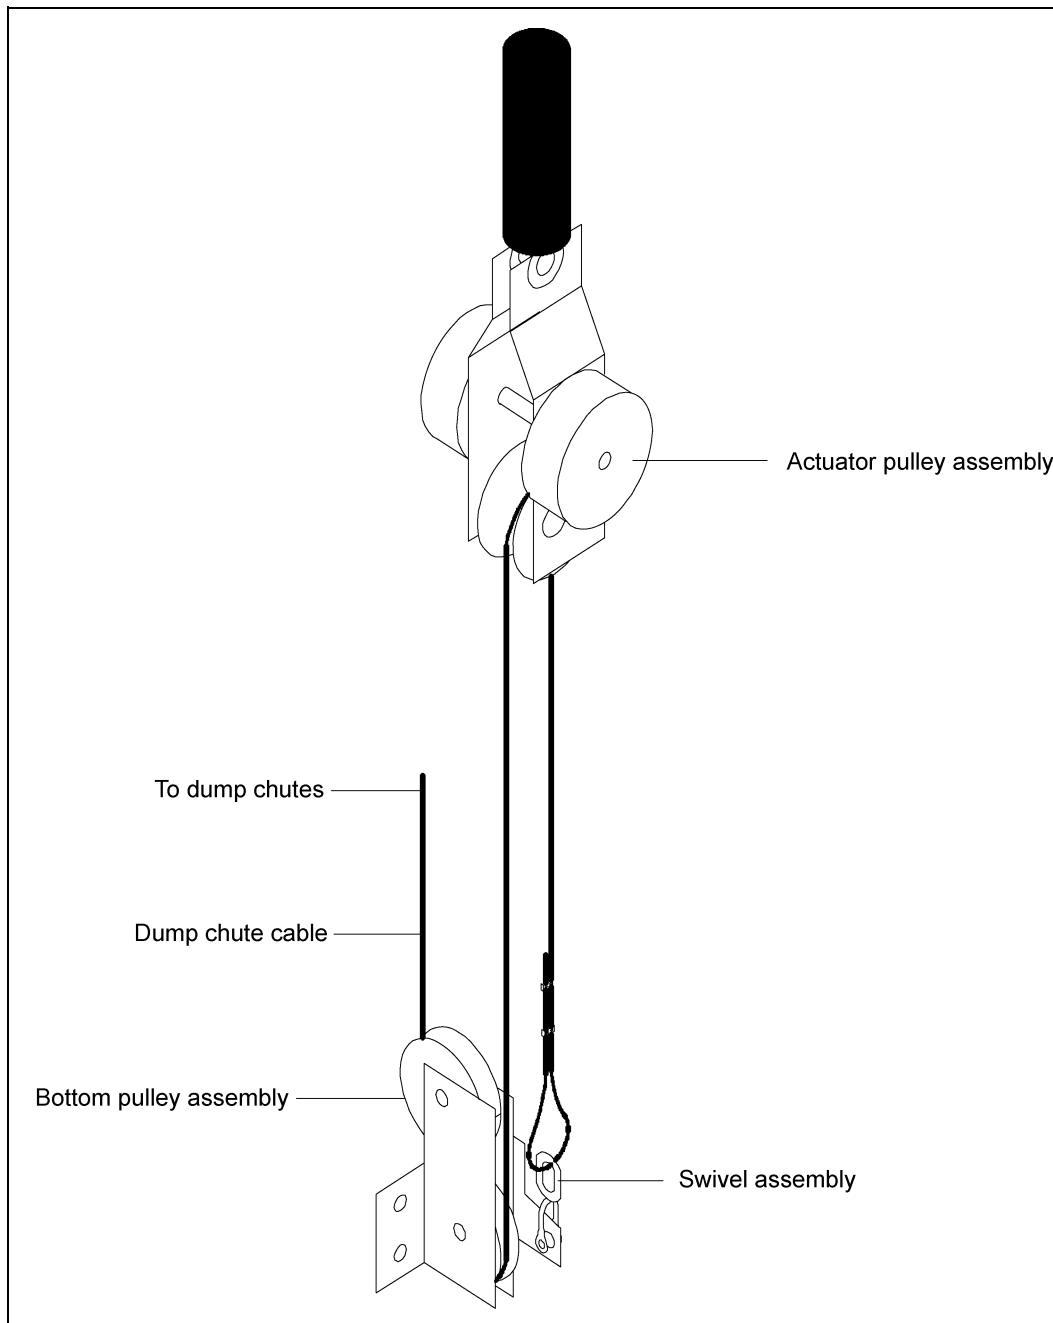

Figure 40
10. Route the cable as shown in Figure 40.